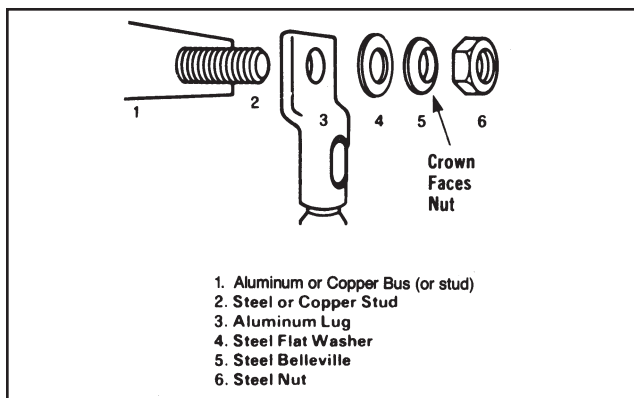

Figure 13
- Hardware should be assembled as shown in Figure 13.
- With other than aluminum bolts, use Belleville spring washers and heavy flat washers arranged as shown in Figure 13.